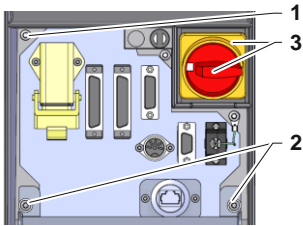
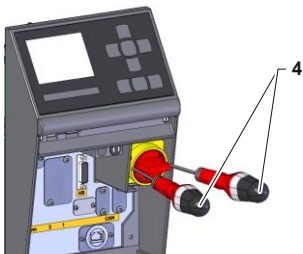

Fig. 1: Interface plate
Fig. 2: Remove cover using handle
3. Replace 1x screw (label 1 → Fig. 1) with M4x10 screws (→ see Parts List Pos 05).
4. Replace 2x screw (label 2 → Fig. 1) with M4x16 screws (→ see Parts List Pos 06).
5. Using two size 1 slotted screwdrivers (label 4 → Fig. 2), penetrate between cover and handle (label 3 → Fig. 1), click off and remove.